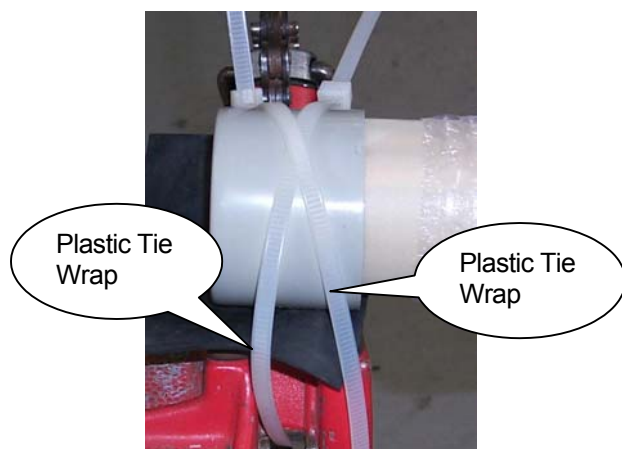

Figure 1
2. Determine how the Cell can be supported on the Cap and the Collar and by two clamps to secure the vertical portion of the field-installed pipe. [See Figure 1.]
17. Hold the unit in place while another person attaches the two plastic wire ties (UFSc PN 245001) over the Cap in an "X" pattern. [See Figure 1.]